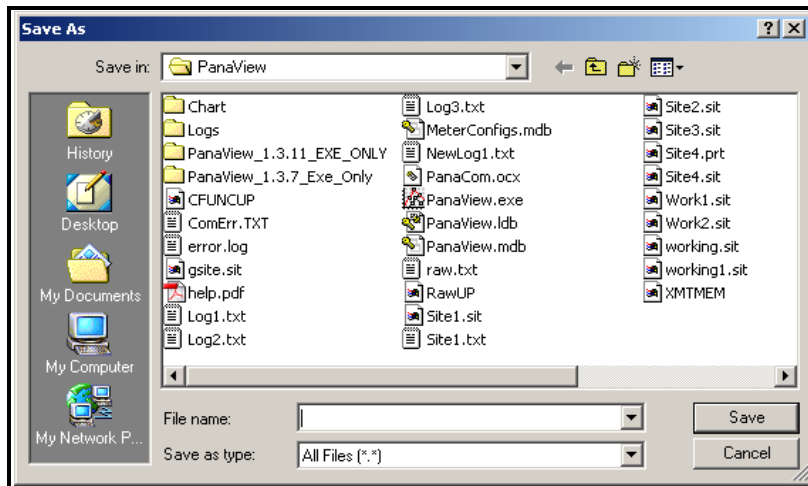

Figure B-5: Saving Signal Array Data to File
- If you double-click on *To File*, another window opens similar to Figure B-5 below. Enter a file name and click [Save]. PanaView stores the array data in a Windows file, and closes the *Calibration/Test* window.
- If you double-click on *To File*, the *Save As* window (similar to Figure B-5 on page B-18) opens. Enter a file name and click [Save]. PanaView stores the array data in a Windows file, and closes the *Calibration/Test* window.